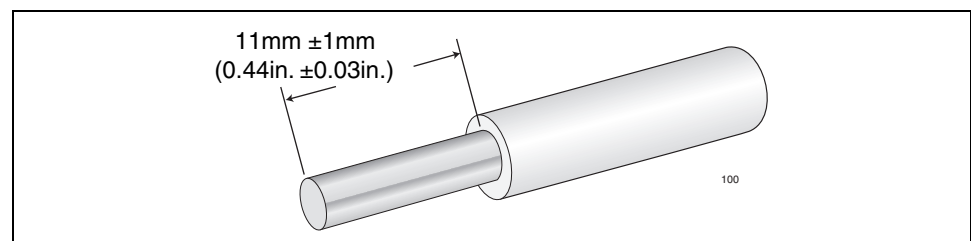

Figure 68. Stripping the Grounding Wire
1. Strip the grounding wire as shown in Figure 68.